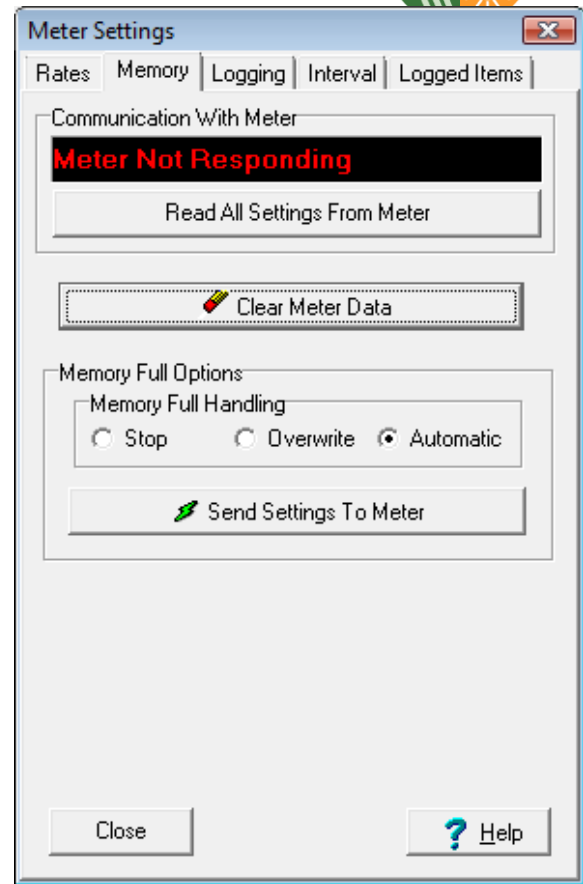

Figure 2: Memory Settings
5. Set the meter to automatically adjust metering interval to account for full memory (Figure 2)